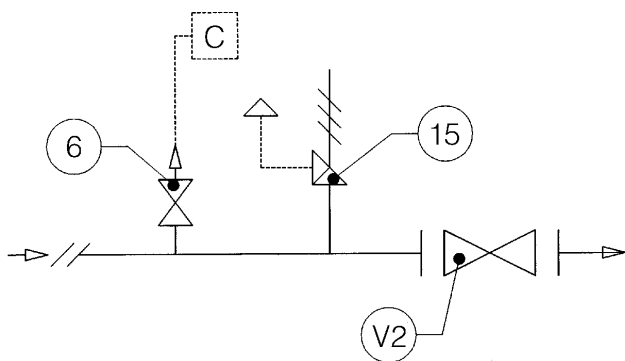

Fig. 5
3.1.1 INSTALLATION DIREKT AN DER REGELSTRECKE (ABB. 5)
3.1.1 INSTALLATION DIRECTE SUR LA LIGNE (FIG. 5)